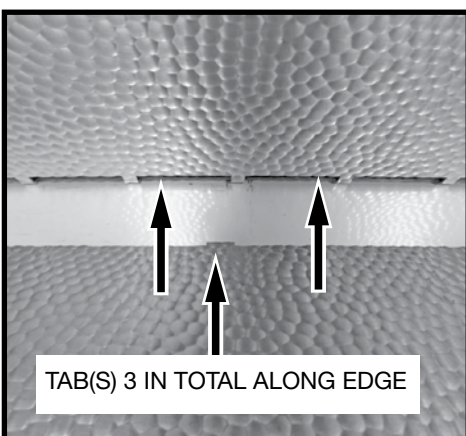
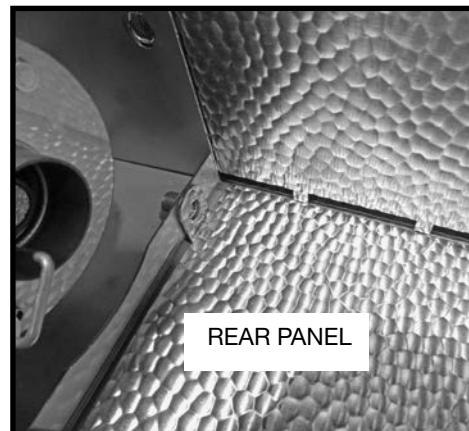
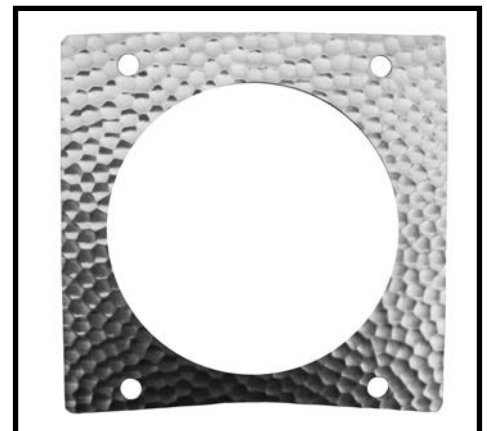

Figure 39: Tabs to slide underneath the air vents.
Figure 40: Rear decorative panel in place with screw holes lined up.
Figure 41: Curvature of end cover plate.
3. Position the rear decorative panel into place by sliding the edge with the 3 tabs underneath the panel with the air vents until it lays flat in the firebox cavity (Figure 39 and Figure 40) and the holes line for the end covers line up. Ensure that the curved edges of the end covers are placed against the rear plate (Figure 41).